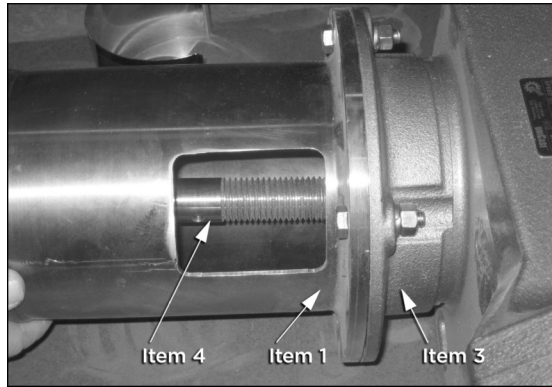

Figure 10
10. Starting with the entire agitator shaft (Item 4) inside of the tank, slide the threaded end of the agitator shaft through the shell of the tank and into the housing (Item 1), making sure to align the key on the agitator shaft with the key slot on the hollow gearmotor (Item 3) output shaft. Stop pushing the agitator shaft through when the shoulder of the shaft pushes against the snap ring inside the gear reducer. (At this point, the shaft will not be able to be pushed farther without deforming the metal.) See Figures 10 and 11.